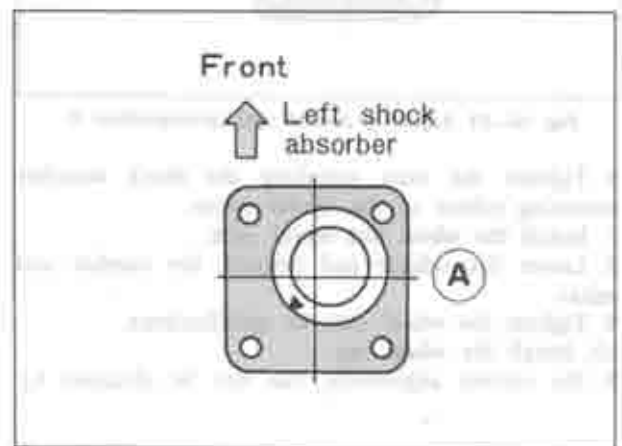

Fig. 10-28 Adjusting camber and caster-position A
5. Press the shock absorber downward and change the position of the mounting rubber according to the following table and Fig. 10-28, 10-29, 10-30 and 10-31.